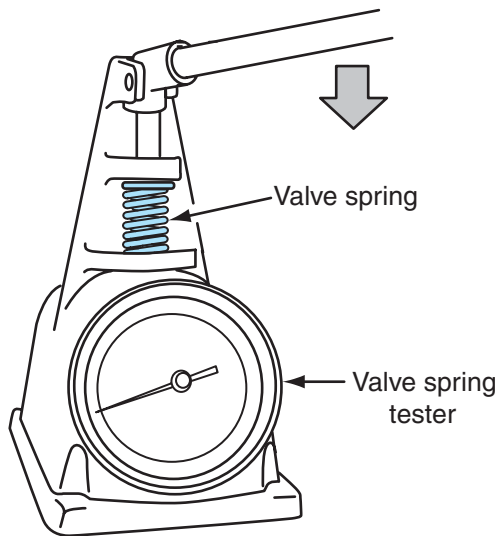

Figure 5-11 Valve spring tension tester.
Inertia welding is commonly used to manufacture exhaust valves using separate alloys for the stem and head. In this way, the stem can be made out of a tough, hard alloy while the head can be manufactured from an alloy with extreme heat resistance and flexibility. The separate stem and head are friction welded. If you look at **Figure 5-11** you can see the location where the stem and head are joined on a typical inertia welded valve.
3. Test valve spring tension using a tension gauge (**Figure 5-11**). The valve spring tension should be within 10 percent of the original tension specification. If not, replace the valve spring.